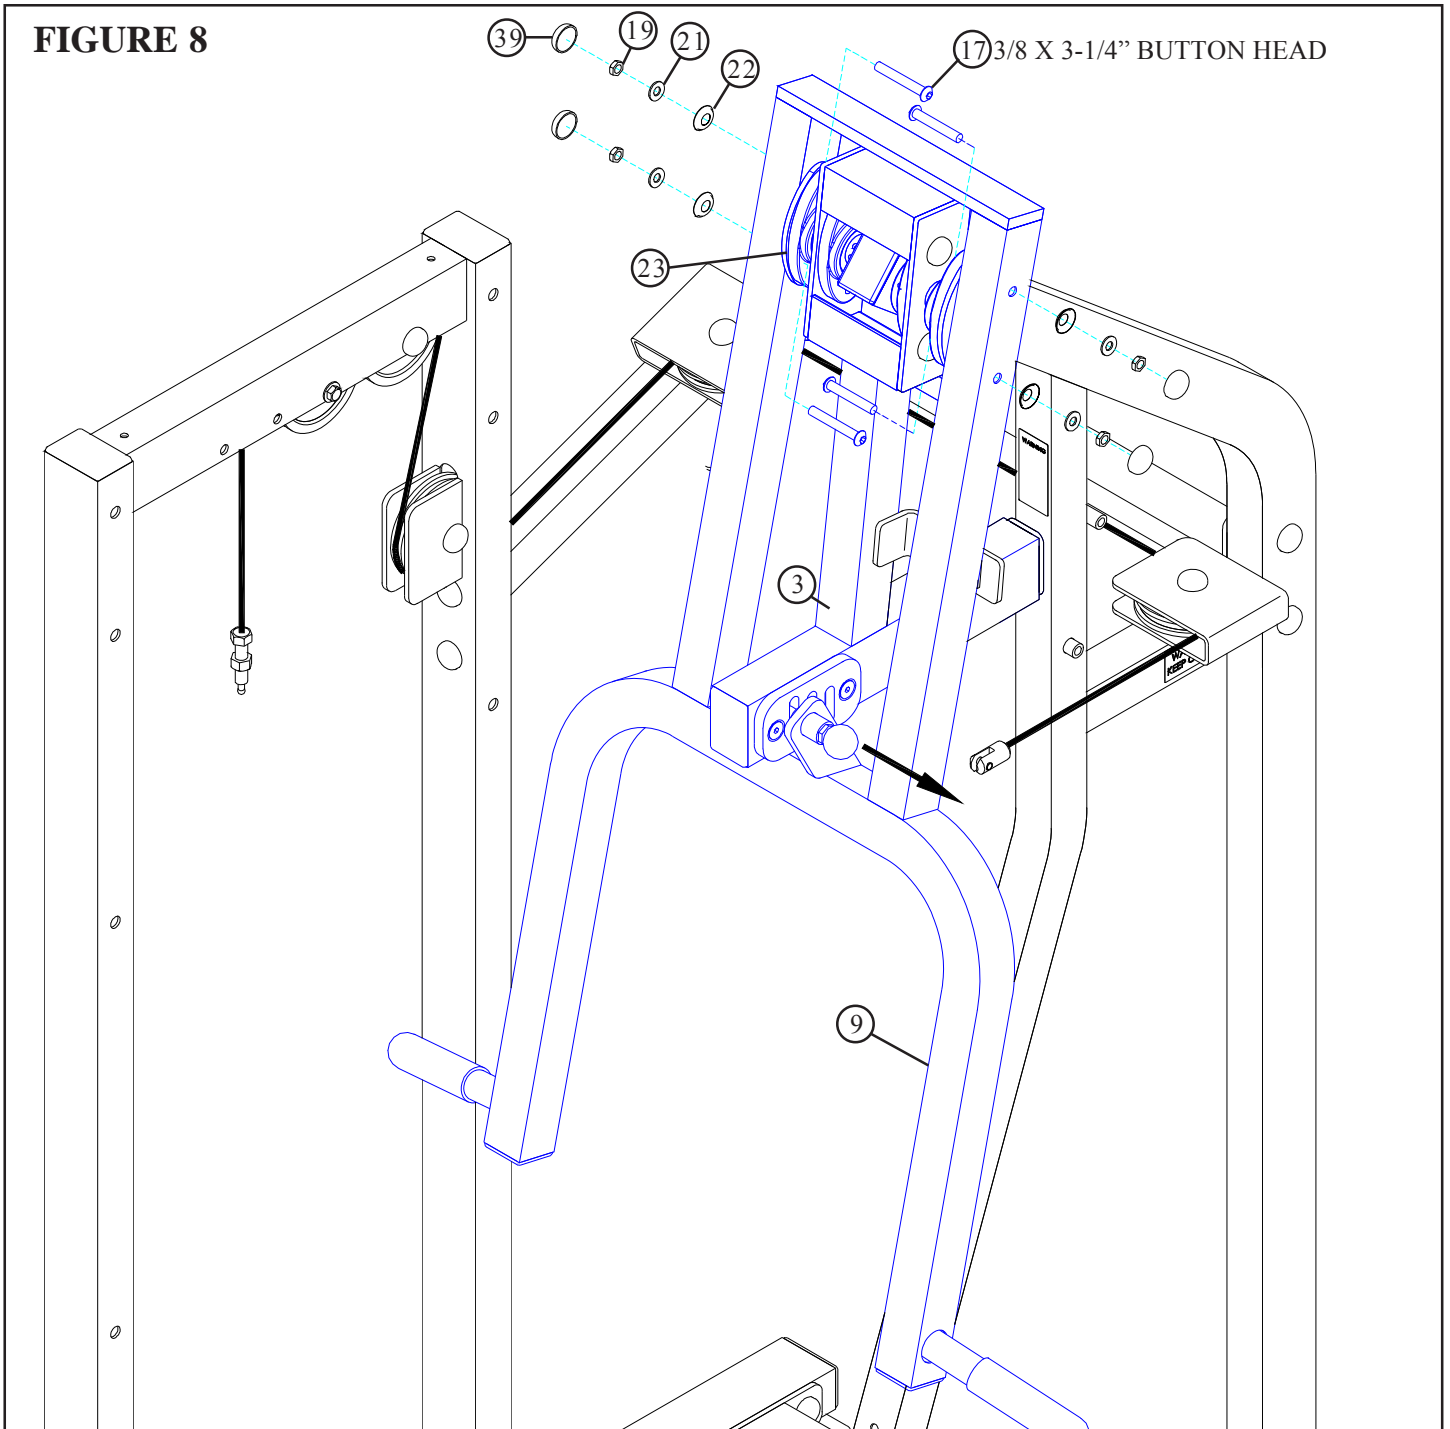

**FIGURE 7**
- Slide two PILLOW BLOCKS (23) over the shafts on the BOOM ASSEMBLY (4) as shown in FIGURE 7.
- Assemble four 3/8 X 3-1/4" BUTTON HEAD CAP SCREWS (17) and four STARLOCK WASHERS (32) to the the PILLOW BLOCKS (23) as shown in FIGURE 7